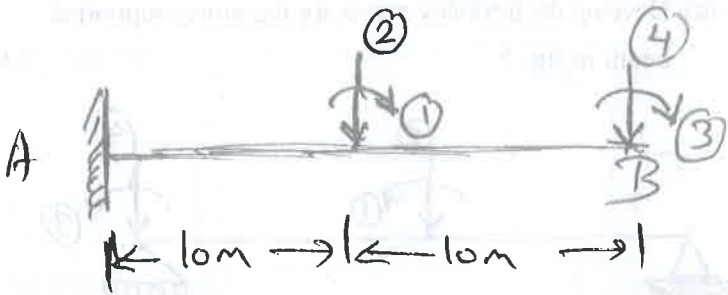

Fig. 7
- (c) Develop stiffness matrixes for the beam AB with reference to the co-ordinates shown in fig. 7. 14